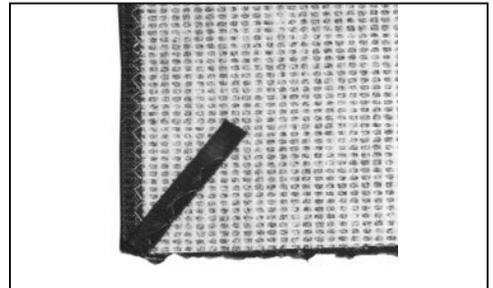

FIG. 19
2. Fold tail under (Figure 19).